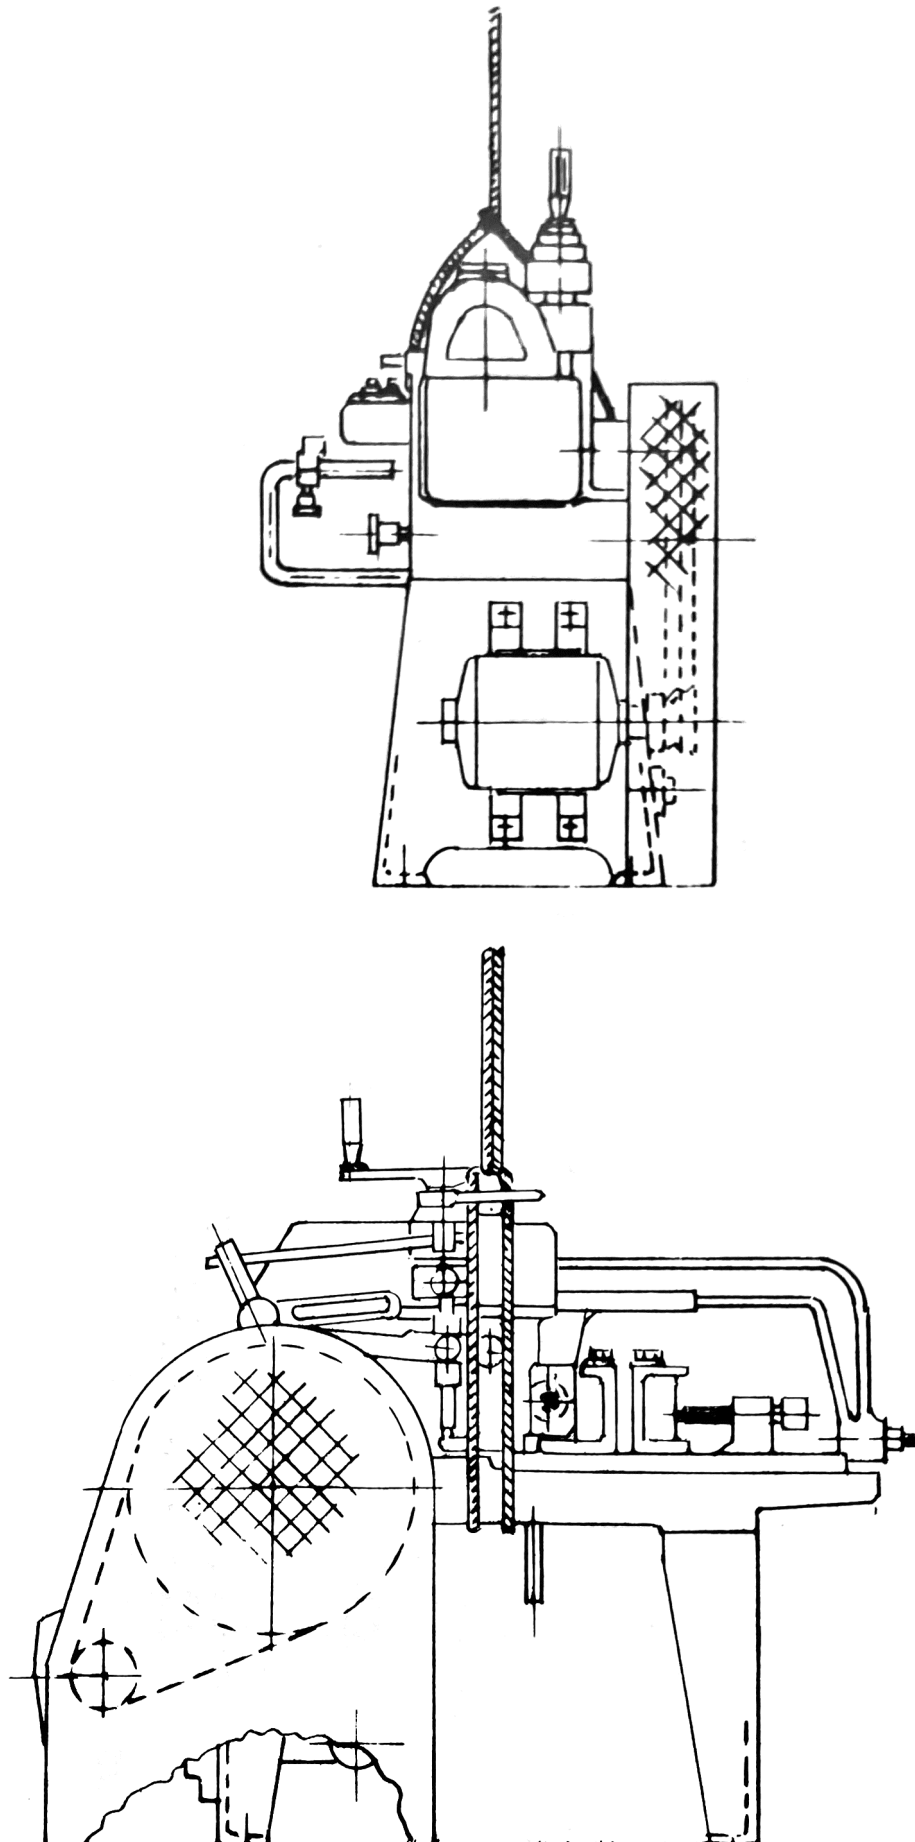

Fig. 1
To lift the machine, a sling should be positioned around the machine frame as shown in Fig. 1. Check to ensure that the lifting sling is of correct capacity to lift the weight of the machine and that the sling is in good condition. (Weight of each model of machine is given in Specification Table Page 13).
- (a) Lift the machine as indicated in Fig. 1 and through each of the four bolt holes provided in the feet of the machine, fit a rag-bolt, 10mm diameter ($\frac{3}{8}$ " diameter) for Model AJSD6, 14mm diameter ($\frac{9}{16}$ " diameter) for Models AJHD6 and AJHD10 \times 100mm long (4" long) with a nut and washer, the nut being screwed on to the bolt so that the end of the bolt is just flush with the upper surface of the nut.